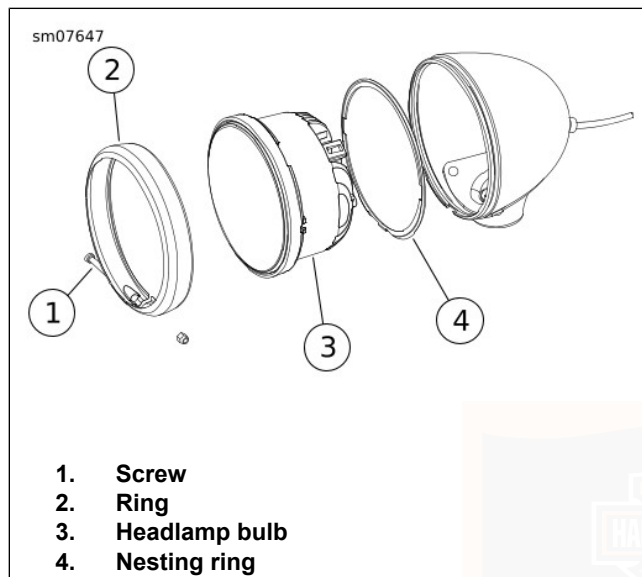

Figure 96. Headlamp Assembly
1. See Figure 96. Remove screw (1). Remove trim ring (2) from lamp housing.
1. See Figure 96. Place nesting ring (4) on back of **new** bulb (3) with the index tab facing away from bulb.